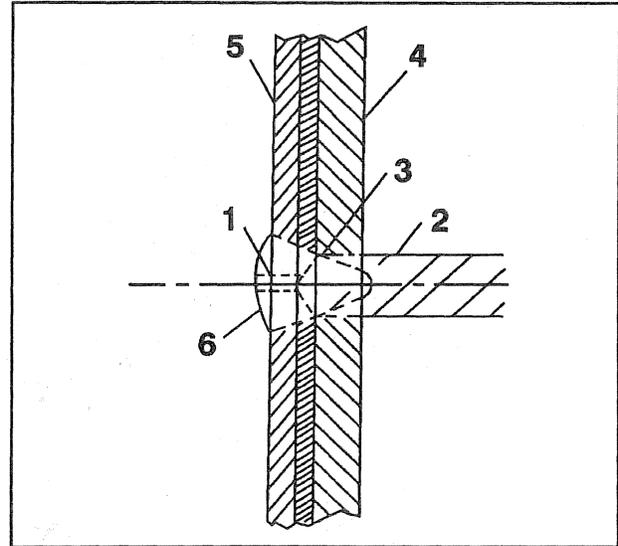

Figure 48—Drilling out Spot Welds
C. Drill a 3-mm (1/8-inch) pilot hole (1) through the welds (6) deep enough to penetrate the hinge base (3) only (figure 48).
D. Drill a 13-mm (1/2-inch) hole (2) through the hinge base (4) only using the smaller hole (1) as a pilot (figure 48).